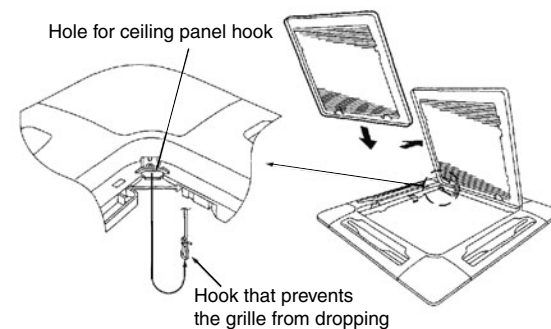

Fig. 3-26
- To install the air-intake grille, follow the steps for **Removing the grille** in the reverse order. By rotating the air-intake grille, it is possible to attach the grille onto the ceiling panel from any of 4 directions. Coordinate the directions of the air-intake grilles when installing multiple units, and change the directions according to customer requests. (Fig. 3-26)